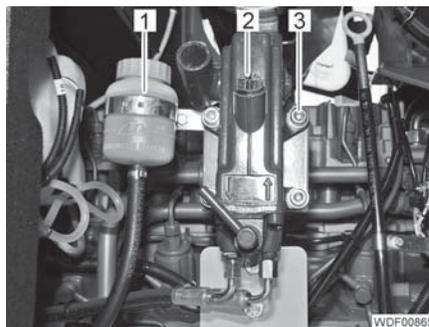

Fig. 2 Hand pump attachment
- Unscrew the 4 screws (Fig. 2,3).
- Carefully pull the hand pump (Fig. 2,2) and tank (Fig. 2,1) forwards and below the driver's seat.